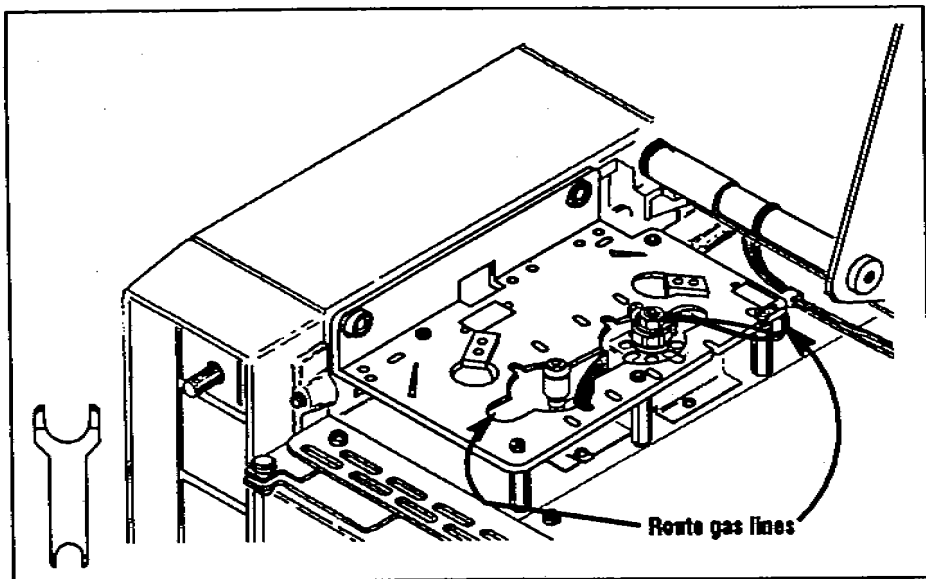

Figure 7. Route the gas lines over the bracket and reattach the inlet nut.
- If gas lines are routed over the bracket, be sure the lines are placed according to figure 7 on page 10.